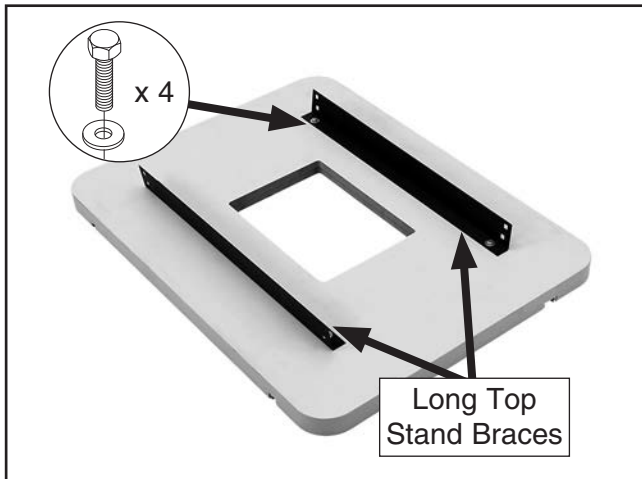

Figure 2. Long top stand braces attached to the underside of the table.
1. Turn the table upside down on a protective surface, then attach the (2) long top stand braces to the table with (4) M6-1 x 16 hex bolts and 6mm fender washers, as shown in **Figure 2**.